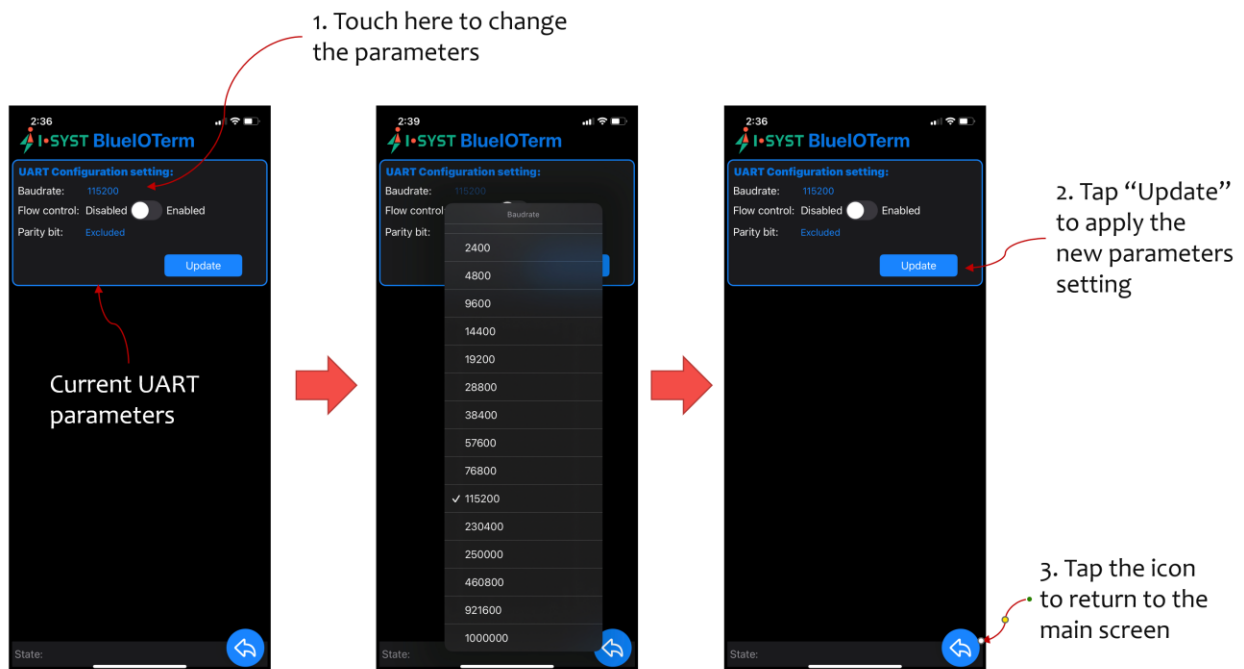

Fig. 11. Change UART parameters in BlueIOTerm.
- (v) To change the UART parameters, tap “Setting” to go to the UART configuration setting menu. The UART parameters shown in the menu are the current settings (Fig. 11).